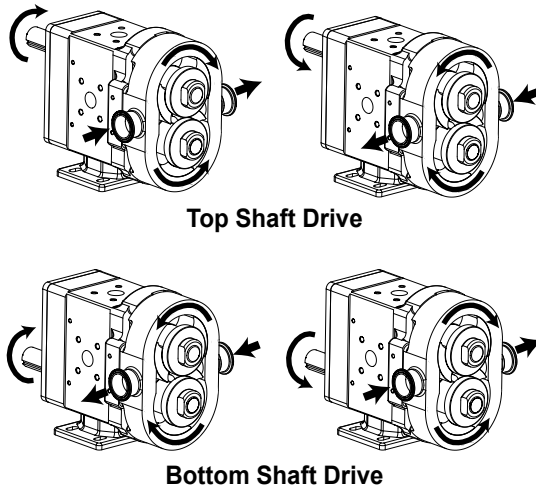

FIGURE 5
- Jog motor and observe motor coupling to make sure pump will turn in the right direction. See Figure 5.